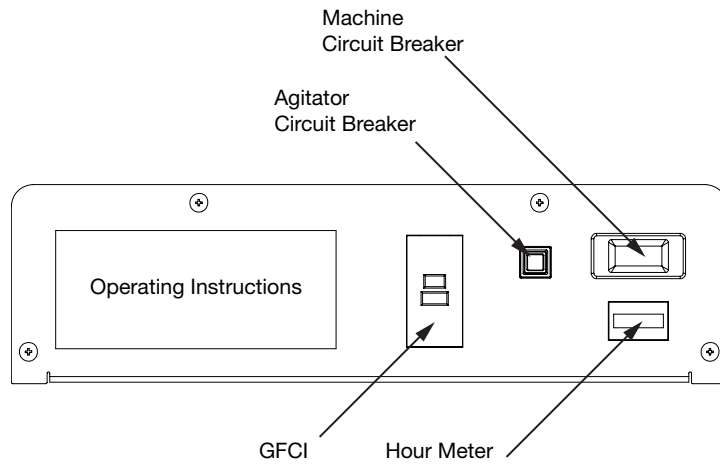

Fig. 6
- **GFCI (Ground Fault Circuit Interrupter) (Fig 6)**
- **Agitator Circuit Breaker (Fig 6)** The circuit breaker automatically opens and protects the entire machine from damage caused by overloading the agitator/airlock components, low voltage, short circuits or dropping foreign objects into the hopper/base.
- **Main Circuit Breaker (Fig 6)** The circuit breaker automatically opens and protects the entire machine from damage caused by overloading the machine, low voltage, short circuits or dropping foreign objects into the hopper/base.
- **Hour Meter (Fig 6)** Displays the total number of hours used. It is also used to indicate when regular preventive maintenance is due.